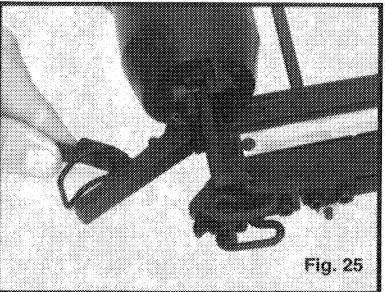

Fig. 25
3. Open the quick release latch and hinge the fastener guide plate open (see Fig. 25).
Open the quick release latch and hinge the fastener guide plate open (see Fig. 25). Clean this area thoroughly. Residue from the fastener collation material collects in this area and must be cleaned regularly. A light coat of a "dry" lubricant (like Porter-Cable #1255066) may be applied to the driver guide track. **USE "DRY" LUBRICANT ONLY!**